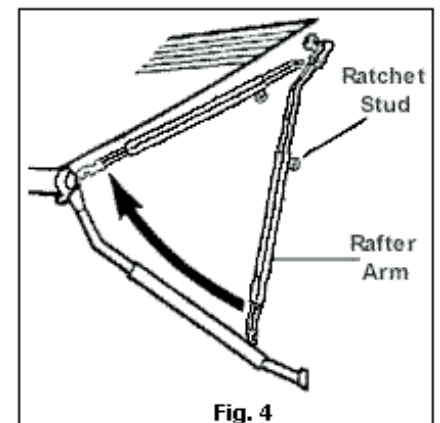

Fig. 4
3. Release the rafter arm by pulling outward on the cap of the ratchet stud located on the upper portion of the arm (Fig. 4). Extend the arm and place the claw over the shaft of the roller.
3. To prevent billowing, hook the claw of the unextended rafter arm over the roller shaft (Fig. 4). This will require the awning be extended approximately four and one half feet.